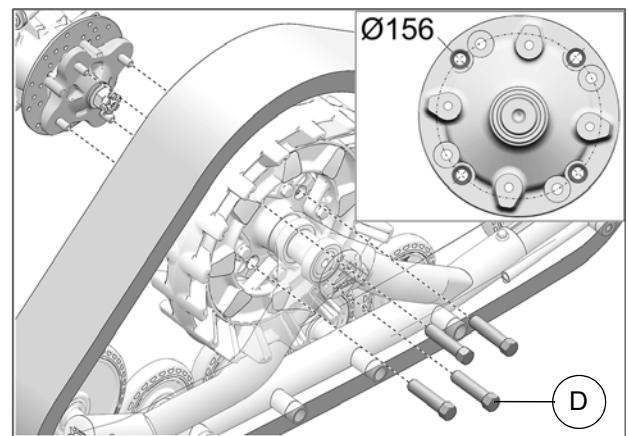

Fig. 14
- Secure undercarriage to front hub using the lug nuts (D) provided. Use bolt circle $\varnothing 156\text{mm}$. See Fig. 14